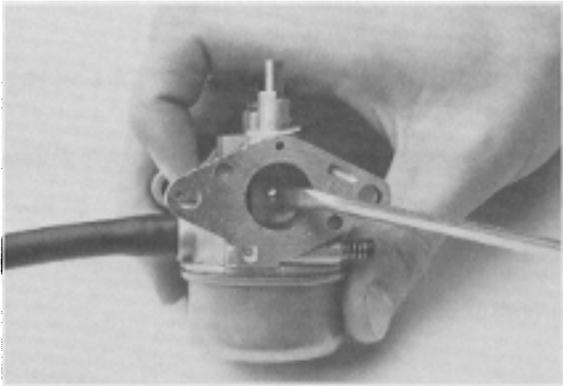

Figure 23
10. Place a drop of Loctite on the screw and install the throttle shaft and valve with the valve hole to the left (**Figure 23**).